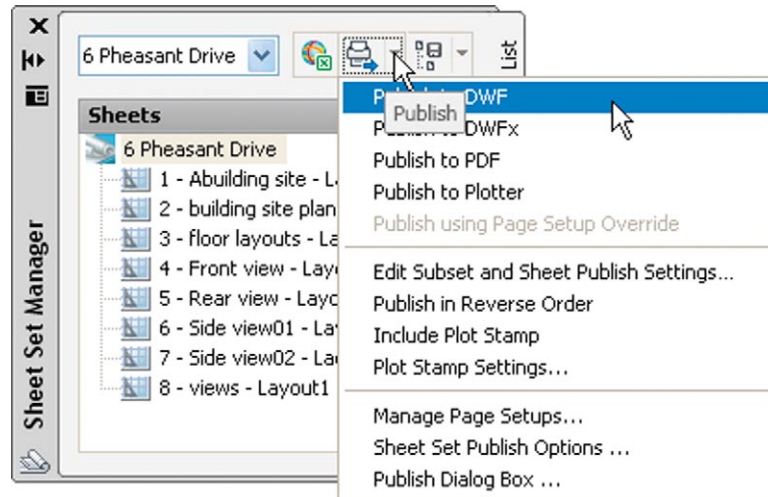
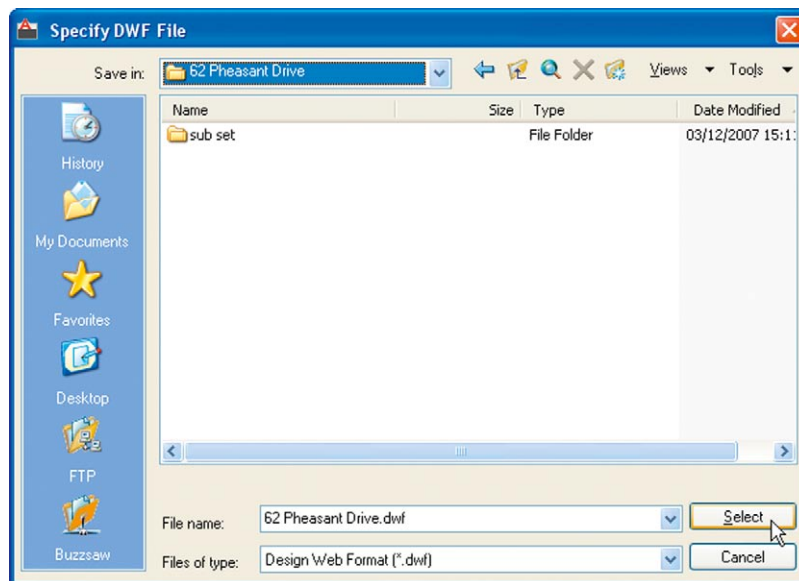

Fig. 11.10 The **Publish** icon in the **Sheet Set Manager**
Fig. 11.11 The **Select DWF File** dialog
1. In the **62 Pheasant Drive** Sheet Set Manager *click* the **Publish** icon, followed by a *click* on **Publish to DWF** in the menu which appears (Fig. 11.10). The **Specify DWF File** dialog appears (Fig. 11.11). *Enter* **62 Pheasant Drive** in the **File name** field followed by a *click*